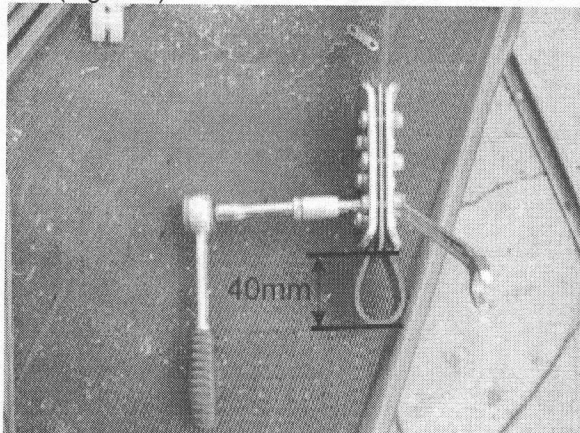

Fig. 056
9. Fasten loop clamps at the end of the lifting belt on side 2. The loop length must be approx. 40 mm (Fig. 056).